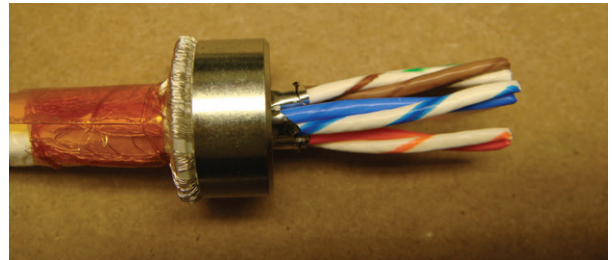
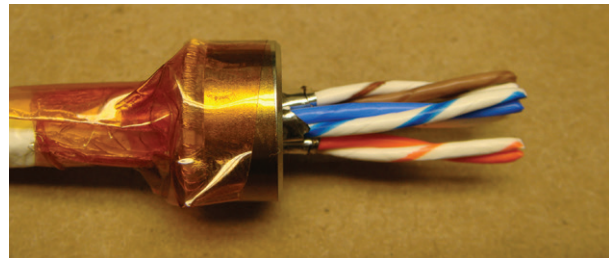

Figure 61: Fitting the compression sleeve
Figure 62: Taping the compression sleeve
11. Fit the compression sleeve over the shield wires and support sleeve (Figure 61). Then, tape the compression sleeve in place (Figure 62).